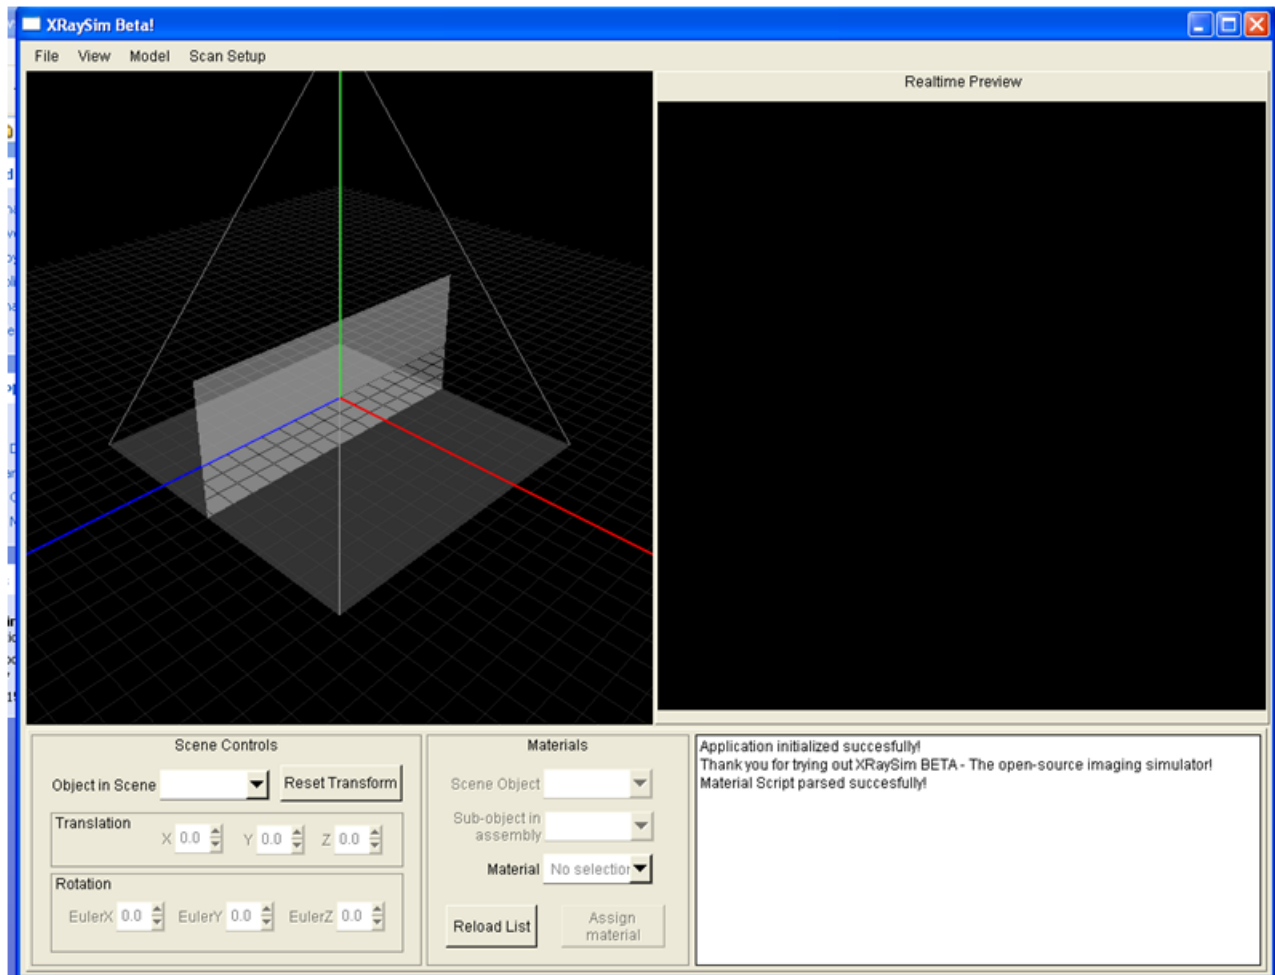

Figure 3.1: XRaySim user interface
When you first load up XRaySim, the main window is displayed with multiple UI widgets. The screen should look like the picture shown in Fig 3.1
- **3D Viewport** - The viewport is your view into the scene. As seen in Fig 3.1, the view shows the source (at a point on the y or green axis), and the detector plane. Also seen is the slicing plane for tomographic data generation. The source is rotated in this plane and various projections are stacked to generate a sinogram. More detailed instructions follow.